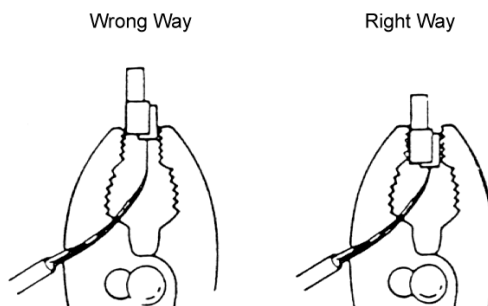

Figure 2-39: Holding the Connector with the Pliers
2. Lightly hold the connector with the pliers. In this case, make sure that the crimping portion is held between the lower portion of the jaws of the pliers. (Refer to *Figure 2-39: Holding the Connector with the Pliers, Pg 78.*)